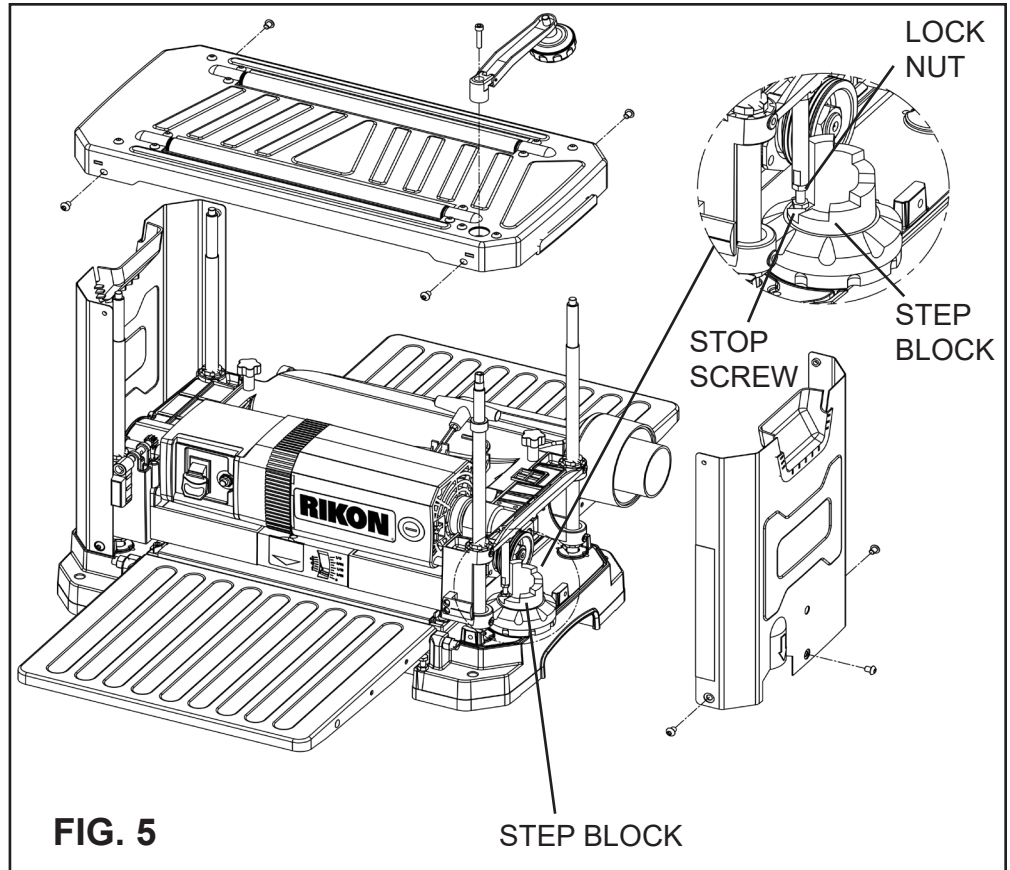

FIG. 5
1. Remove the screws to take off the height adjustment hand-wheel (1 screw), remove the right side panel (3 screws) and top cover (4 screws). FIG. 5.